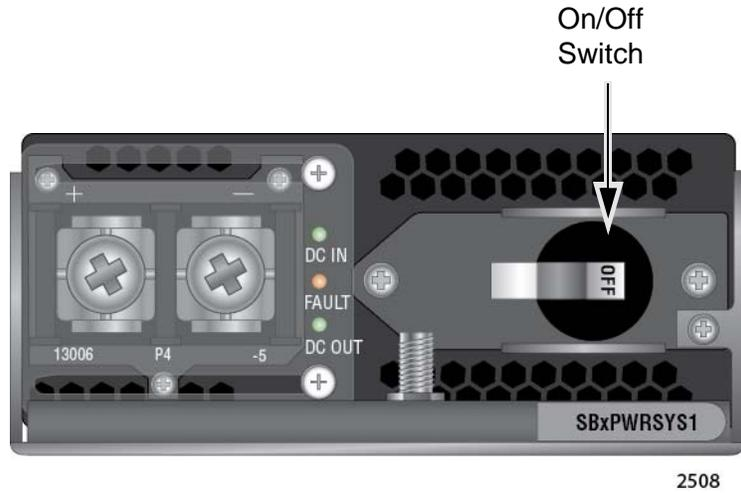

Figure 59. On/Off Switch on the AT-SBxPWRSYS1 DC Power Supply
4. Verify that the On/Off switch on the power supply is in the Off position. Refer to Figure 59 on page 125.